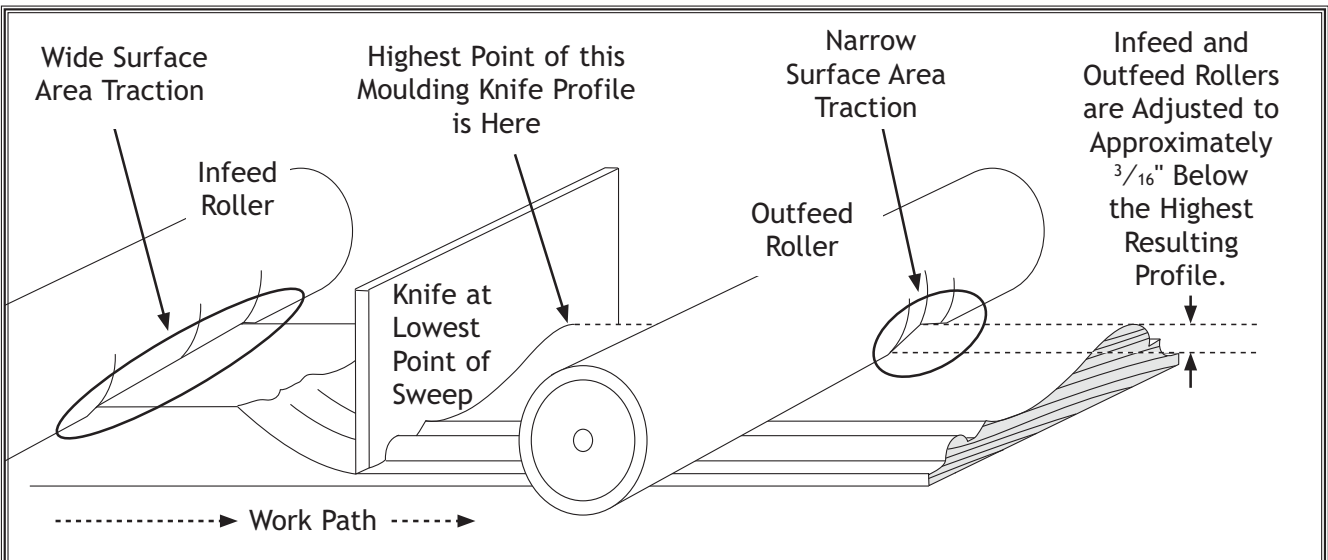

Figure 27. Feed roller height concept for moulding knife use.
- For moulding, lower the roller so it is approximately $\frac{3}{16}$ " below the highest point of the moulding knife profile. Refer to **Figure 27** to study and find the highest point of the moulding knife profile when the knife is at the lowest point of its sweep.